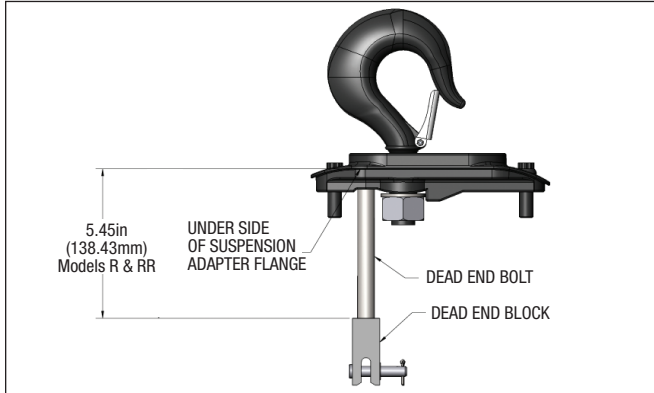

Figure 14. Swivel Hook Suspension
Assemble the dead end bolt and block through the suspension adapter as shown in Figure 14.
3. Use a bolt cutter (Figure 14) similar to the H.K. Porter No. 0590MTC with special cutter jaws for cutting hardened chain (25.4mm-1 inch) long cutting edge.